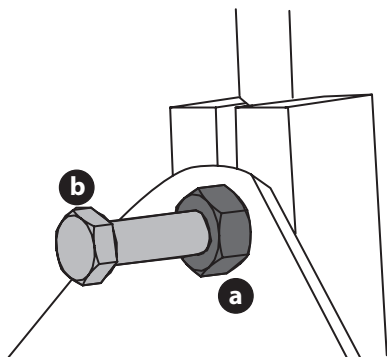

Figure 26
1. Locate the parking brake adjustment nut near the engine (Figure 26).
2. Loosen the lock nut (a) and then tighten the bolt (b) to adjust the parking brake. Turn the bolt until it touches, then back it off a 1/4-turn (Figure 26).